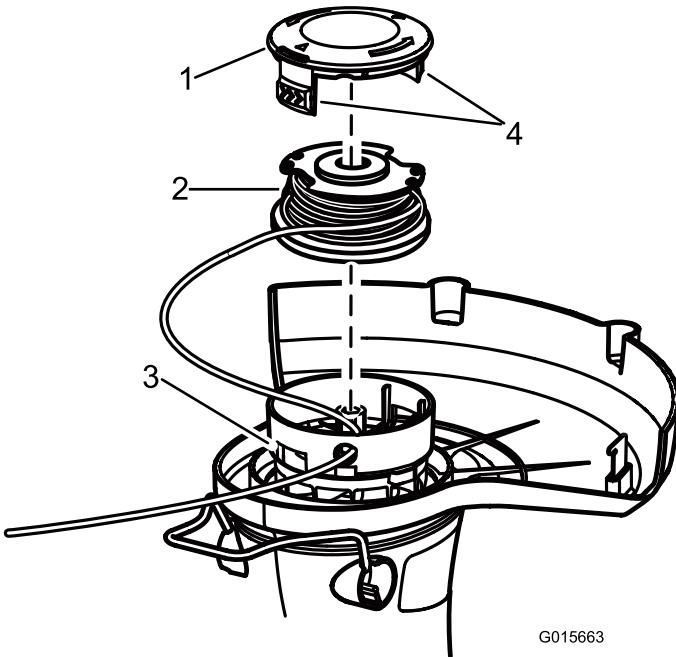

Figure 15
2. Push in the tabs on the side of the spool retainer (Figure 15).
2. Remove the spool. See Replacing the Spool (Figure 15).